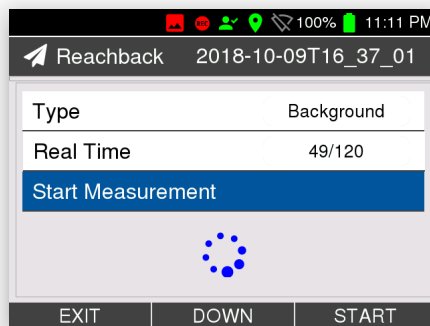

Figure 88: Collecting reachback data
4. Start the measurement. The elapsed time is shown during the measurement (Fig. 88, p. 77).